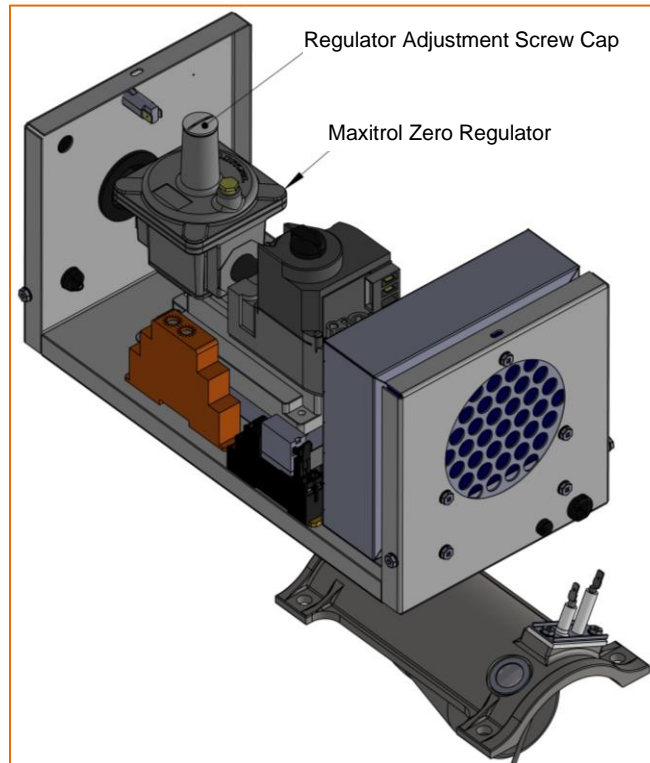

Figure 43: Maxitrol Zero Regulator
1. Now we are ready to start up the burner. Before plugging in the burner, take the cap off the Maxitrol Zero Regulator. Refer to Figure 43 below to locate Zero Regulator.